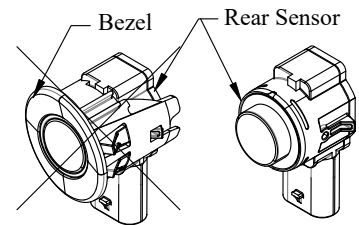

Figure 1: Rear sensor - no bezel.
2. **Remove** and **Save** the rear sensors and wire harness from the bumper. Do not reuse the factory mounting bezel (Figure 1), doing so may position the rear sensors incorrectly.